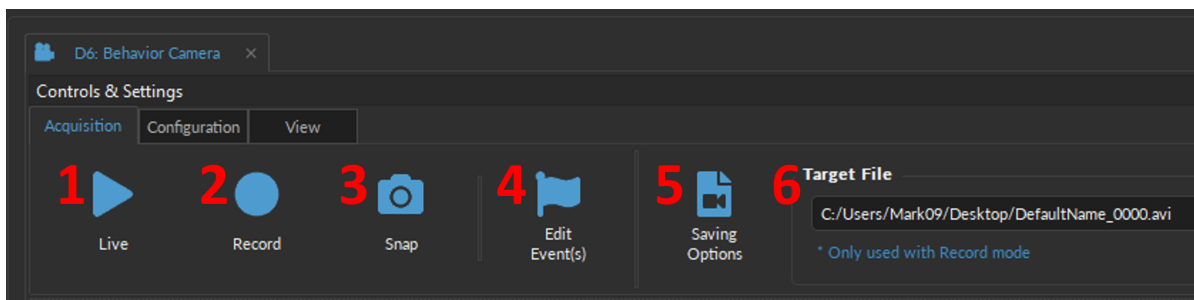
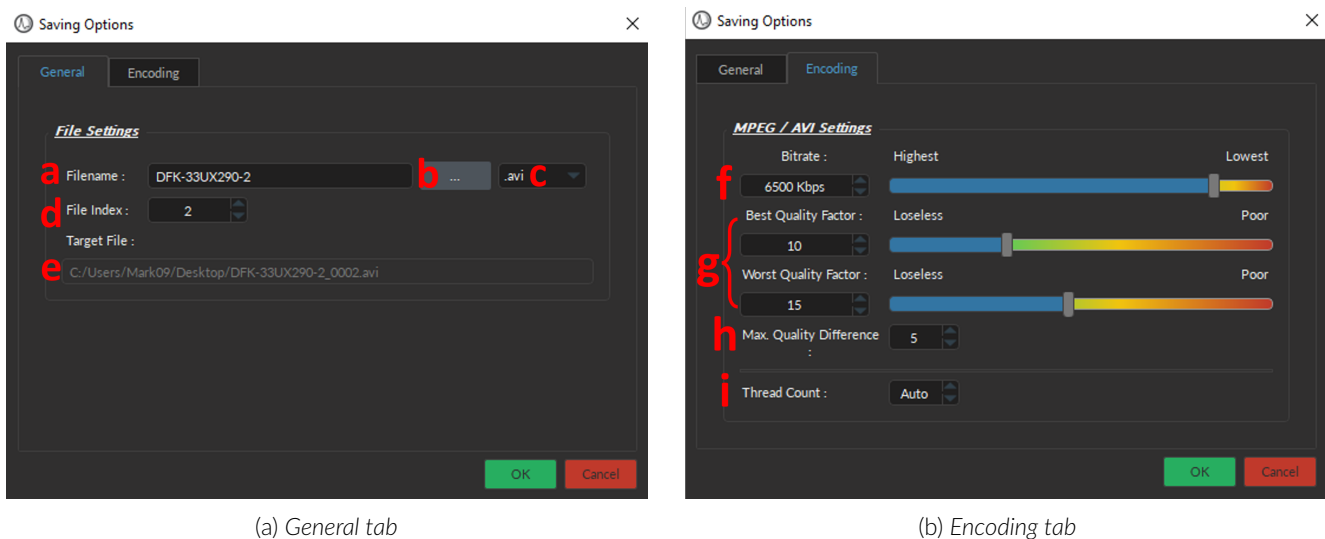

Figure 6.3: Control & Settings, Acquisition tab
Figure 6.4: Saving Options window
The **Acquisition** tab (Fig. 6.3) contains the controls to start, stop and save behavior footage, and includes the following elements:
1. The **Live** button (Fig. 6.3, 1) acquires images and displays them. These images are for display only and cannot be saved.
2. The **Record** button (Fig. 6.3, 2) acquires a continuous image stream and saves it to a user-defined file as one .AVI file.
3. The **Snap** button (Fig. 6.3, 3; NOT available for the *Web Camera* module) will take a picture and automatically open a window where users can save the image in a variety of available file formats (including .bmp, .jpeg, .tiff, among many more).
4. The **Edit Event(s)** button (Fig. 6.3, 4) opens the **Keypress Event(s)** window, which allows users to flag behavior events or experimental disruption at the press of a keyboard key. See Section 6.1.5.
5. The **Saving Options** button (Fig. 6.3, 5) opens the **Saving Options** window (Fig. 6.4), which is split into two tabs. The **General** tab (Fig. 6.4a) is used to set file saving parameters, while the **Encoding** (Fig. 6.4b) is used to adjust the camera acquisition parameters.
- e) The **Target File** displays the final path + filename + extension. This file name will ultimately be displayed as the **Target File** in the **Acquisition** tab (Fig. 6.3, 5).